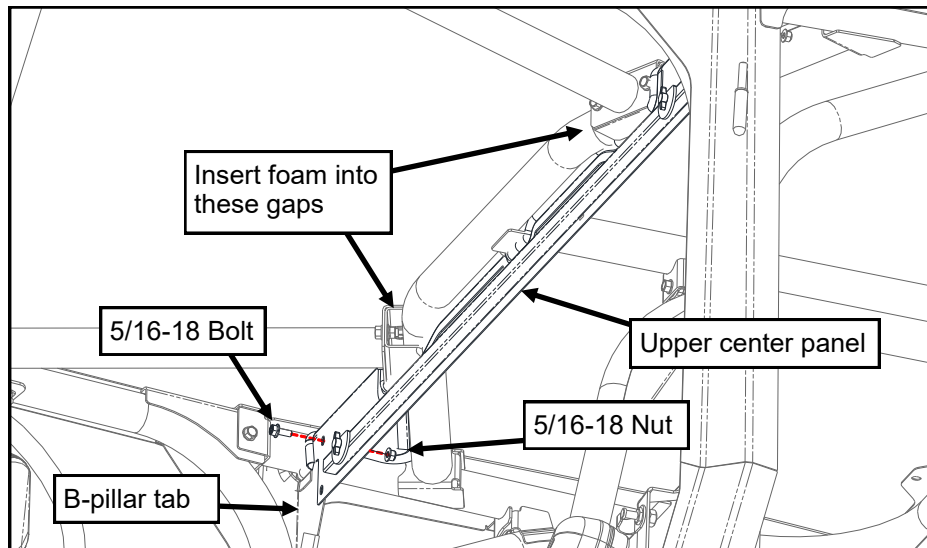

Figure 2.1: Upper Center Panel
- 2.1 Place the upper center panel in front of the upper B-pillar tabs, with the upper flanges facing to the rear (see Figure 2.1). Secure the panel to the B-pillar tabs, through the upper hole on each side of the upper panel, with 5/16-18 x 3/4" bolts and nuts. Install with bolts on the front side of the panel and leave loose.
- 2.3 Cut the supplied foam tape into two pieces, approximately 2" long, and insert the foam into the gaps at the ends of the front roof cross beams (see Figure 2.1). The foam should completely fill the gap.